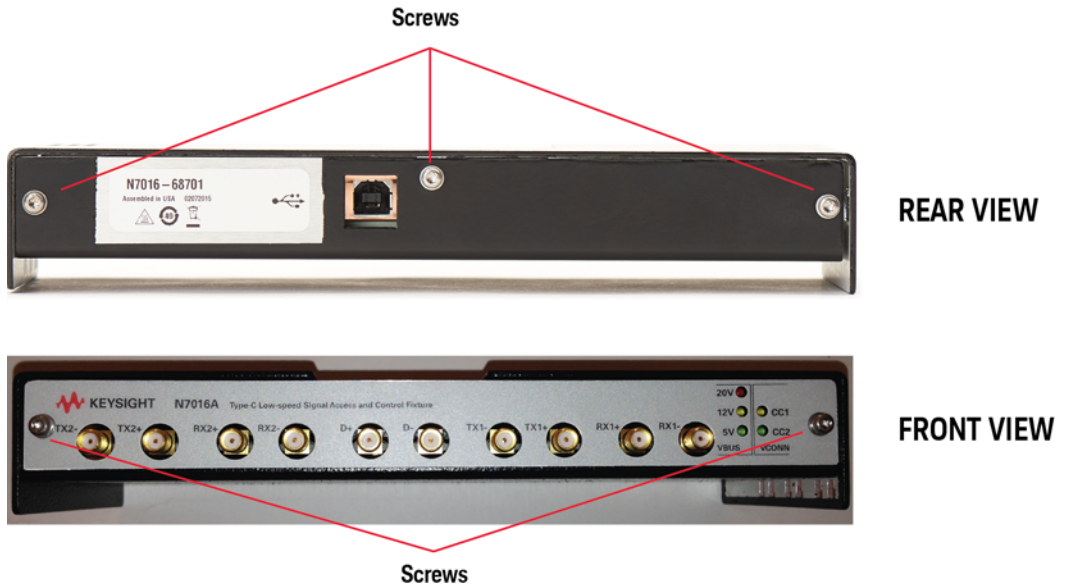

Figure 16 Cover Screws
- 5 After replacing the fuse, carefully fit the cover back on the N7016A low speed fixture and tighten the three screws on the back side and the two screws on the front side of the N7016A fixture cover (See Figure 16 on page 57).